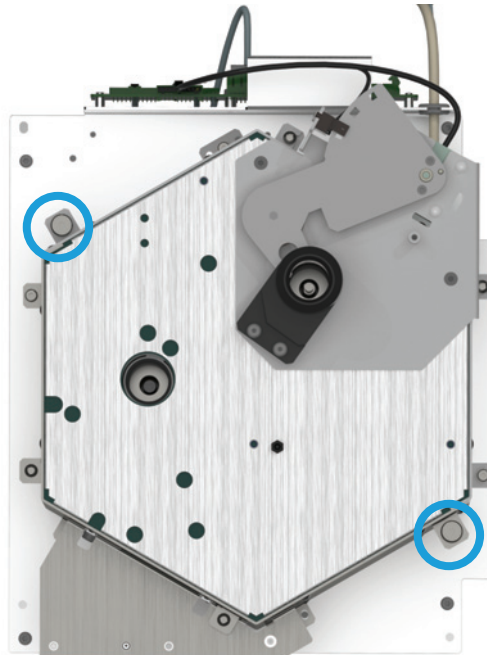

Figure 13. Loosen the thumbscrews on the oven top assembly
- b Completely loosen the two T-20 Torx captive thumbscrews (**Figure 13**).